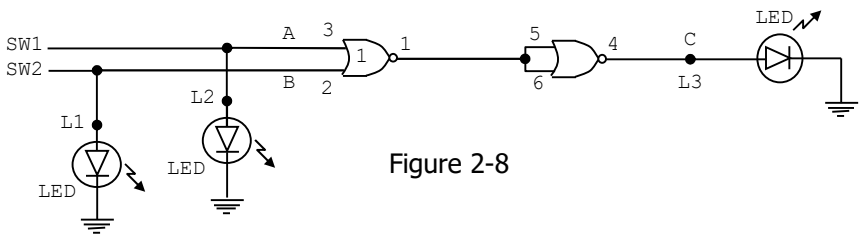

Figure 2-8
32. Wire the circuit shown in figure 2-8. With SW1 (A) and SW2 (B), apply the states shown in Table 12. Record the state for each set of inputs. Observe indicators L1, L2, and L3 to obtain your input and output data. Use positive logic (binary 1 = on, binary 0 = off).
33. Study the circuit in Figure 2-8 and the data in Table 12. What logic function is being performed?